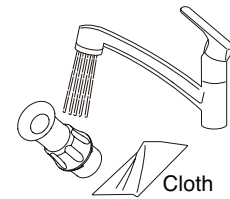

Fig.5-4 Surface cleaning
- A. Wipe off the surface contamination by a cloth while rinsing the surface by running clean warm water at 40 ± 5 degrees. (Fig.5-4)